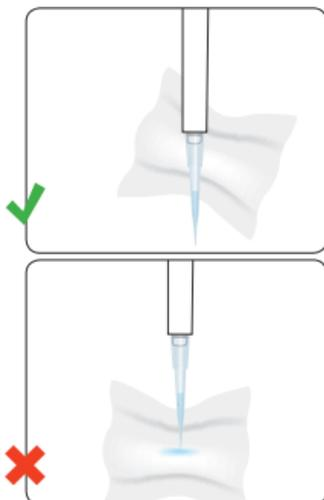

Figure 9. Removing Droplets on the Tip
▶ Before dispensing, carefully remove droplets on the outside of the tip with a lint-free cloth, being sure to stay clear of the tip opening. (figure 9)